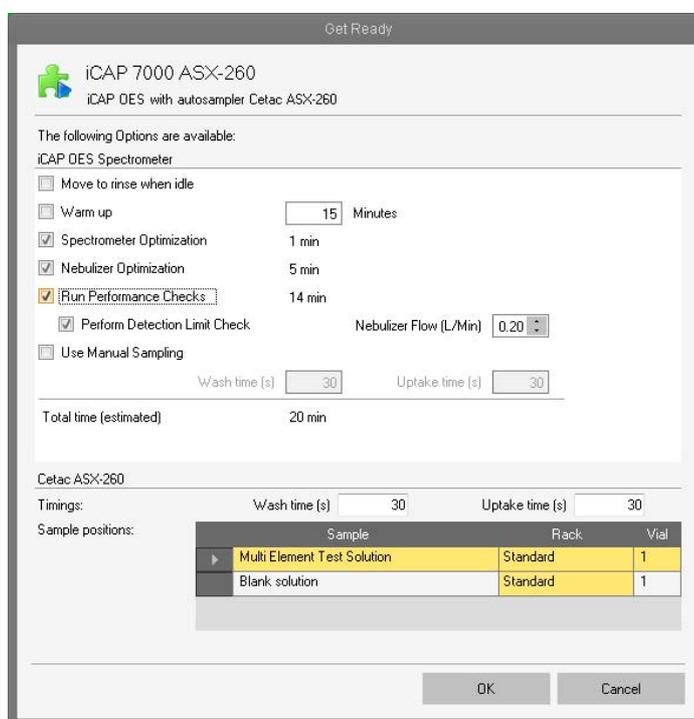

Figure 4-6. Get Ready dialog for iCAP 7000 Plus Series ICP-OES
1. On the Dashboard page, click the red **Get Ready** button. The **Get Ready** dialog opens, see Figure 4-6.
10. If an autosampler is configured, for **Sample positions** in the lower extension of Figure 4-6, select the desired vials from the table to specify the sample positions for **Multi Element Test Solution** and **Blank solution**.